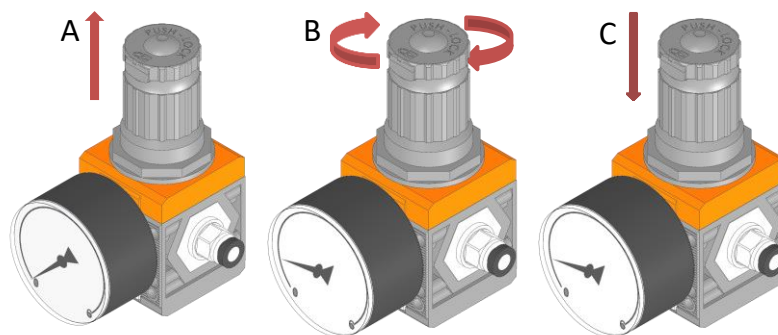

Figure 7. Pressure gauge using.
- Open valve on gas supply tanks and adjust the Pressure Gauge by pulling the knob up (A in Figure 7) and rotating it clockwise until the pressure reaches the desired value (B in Figure 7), then push the knob down to lock it (C in Figure 7). Set the CO2 pressure value at 1,5 bar (22 psi) and the Air pressure value at 500 mbar (7,25 psi).